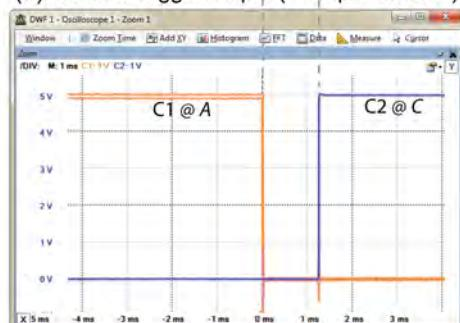

Figure 4-20: (a) Switch bouncing with no components other than the switch and $10\text{k}\Omega$ resistor
Figure 4-20(a) illustrates the problem in action using the rising/falling-edge trigger condition of the Analog Discovery Oscilloscope. A momentary push button is placed in a simple series circuit with a $10k\Omega$ resistor and the voltage is measured across the resistor. When the switch hits the contact, the output is suddenly high, but the switch then bounces back from the contact and the voltage falls down again. After about 2–3ms (or longer) it has almost fully settled. Unfortunately, this small bounce can lead to false inputs to a digital circuit. For example, if the threshold were 3V, this may be read in as 101010101.
- A low-pass filter can be added in the form of a resistor-capacitor circuit as illustrated in Figure 4-20(c) using a $1\mu F$ capacitor. Unfortunately this leads to delay in the input. If you examine the time base, it takes about 2ms before the input reaches 1V. Also, bounce conditions can delay this further. These values are chosen using the *RC time constant* $\tau = R \times C$, so $\tau (\text{s}) = 1,000\Omega \times 10^{-6}\text{F} = 1\text{ms}$, which is the time taken to charge a capacitor to $\sim 63.2\%$ or discharge it to $\sim 36.8\%$. This value is marked on Figure 4-20(b).
- For momentary push button switches (SPSTs), a Schmitt trigger (74HC14N), which is discussed in the next section, can be used with an RC low-pass filter as in Figure 4-20(c).
The Schmitt trigger in Figure 4-20(c) exhibits the same type of behavior. The V_{T+} for the M74HC14 Schmitt trigger is 2.9V and the V_{T-} is 0.93V when running at a 5V input, which means that a rising input voltage has to reach 2.9V before the output changes high, and a falling input voltage has to drop to 0.93V before the output changes low. Any bounce in the signal within this range is simply ignored. The low-pass filter reduces the possibility of high-frequency bounces. The response is presented in Figure 4-20(d). Note that the time base is 1ms per division, illustrating how “clean” the output signal is. The configuration uses a pull-up resistor, the need for which is discussed shortly.